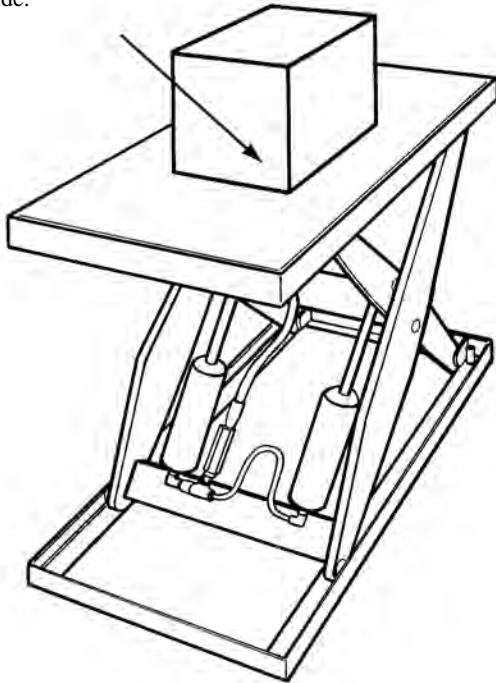

Figure 4 – Center the Load
- Place the load in the center of the lift table, as shown in Figure 4.